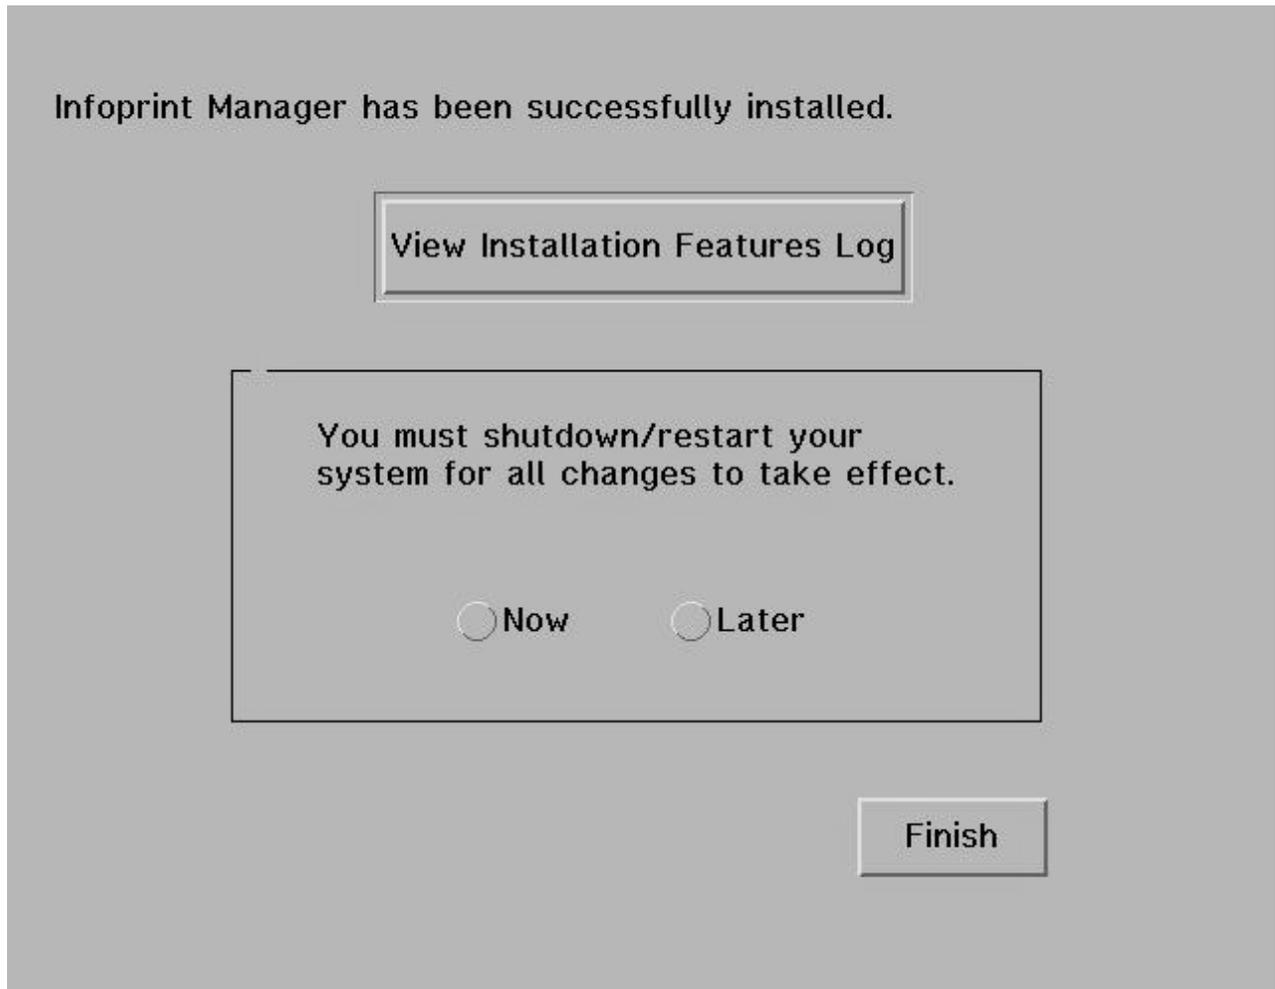

Figure 22. Final Infoprint Installer panel
10. Once all features have been installed, the Installer displays a panel (Figure 22) that gives you the option to display the full set of features installed.